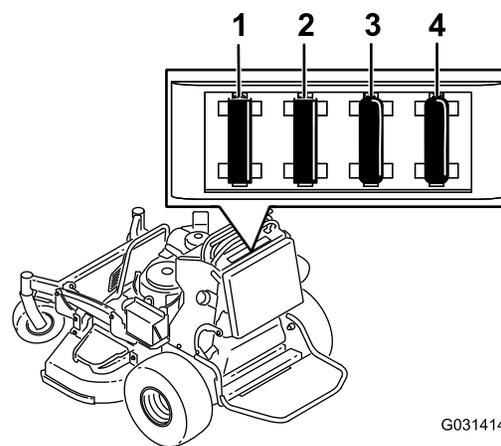

Figure 64
5. Pull out the fuse and replace it (Figure 64).